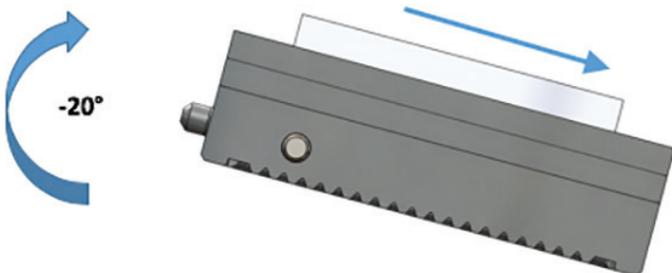

FIGURE 16. GRIPPER SETTLE = -20°, RELATIVE TO FLAT VISE
5. **Robot Settle** - This check box opens and closes the VBX-160 gripper, while holding MultiGrip™ Jaws and the Infeed material, before entering the CNC. This feature is used to allow the part or material to gravity settle into position in the MultiGrip™ Jaws. If the application requires the part to settle in the Y direction on the MultiGrip™ Jaws, an option for entering an angle is available. See the Figures 16 and 17 for orientation of rotation based on value entered. Angle values for Y settling may require fine tuning or experimentation for reaching a stable, repeatable process. If using an angle for Y-settling with gravity, include a Y-datum feature on the MultiGrip™ Jaws.